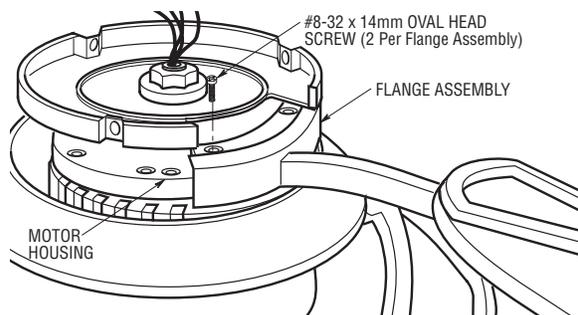

Figure 2
5. Attach the flange assembly using two #8-32 x 14mm oval head screws (supplied) (Figure 2). Install the remaining four fan blades assemblies using the same procedure.